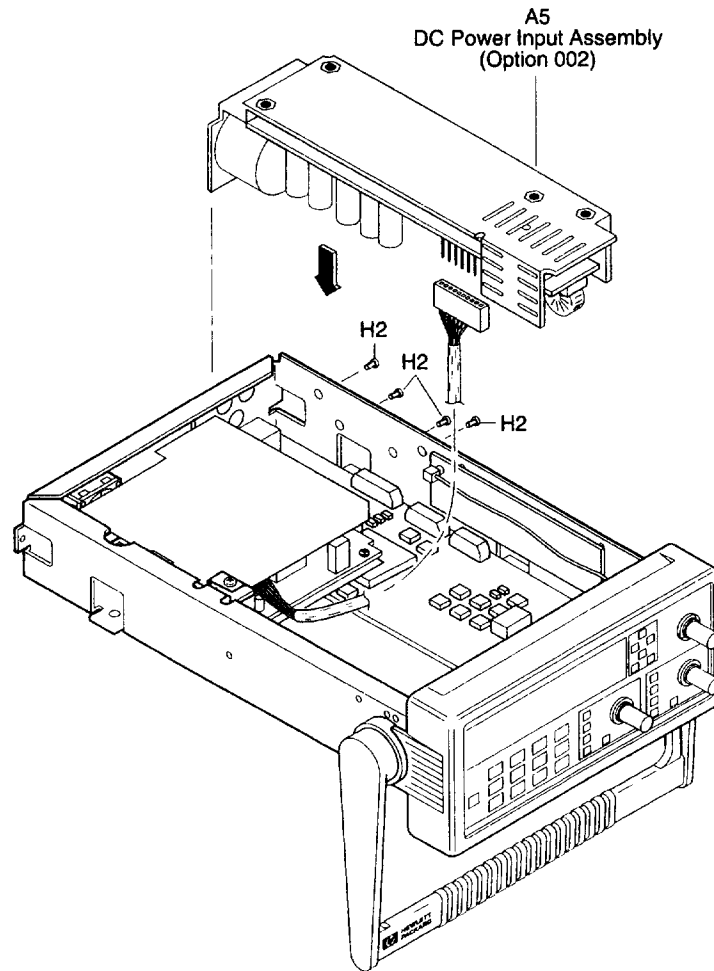

Figure 4-1C. DC Power Input Assembly Retrofitting
- a. **First, connect the other ac power supply cable to the connector on A5 printed-circuit board as shown in Figure 4-1C.**
- c. Using the four TORX 10 screws (H2), secure A5 DC Power Input Assembly to the side of the chassis (MP10) as shown in Figure 4-1C.